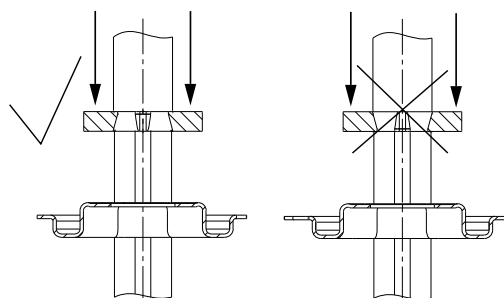

Fig. 24 Fitting the stop ring
5. Fit O-ring (pos. 107) into the rotating shaft seal part (pos. 104). For correct lubricant, see section 3. *Tightening torques and lubricants*.
6. Fit retainer (pos. 111) and stop ring (pos. 111a). See fig. 24.